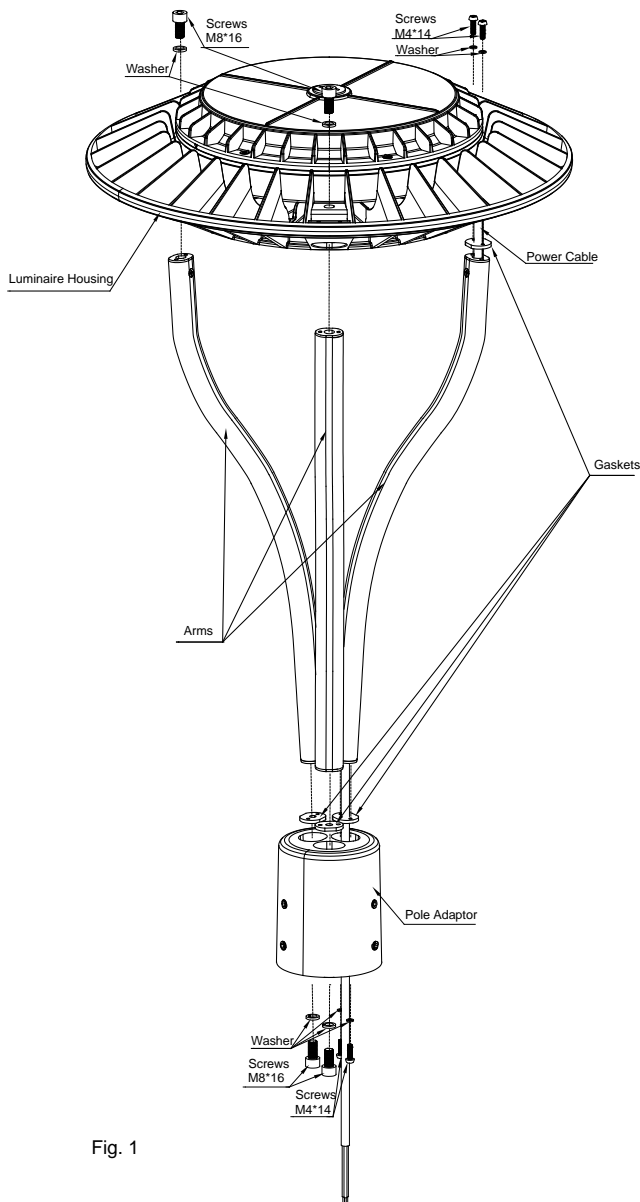

Fig. 1
1. Assemble the luminaire housing, the three arms, the three gaskets and the pole adaptor using the provided hardware (Fig.1).